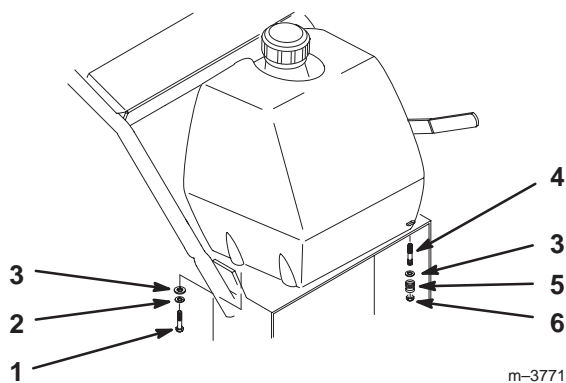

Figure 10
1. Align fuel tank to top of rear frame and secure fuel tank right side with (2) 5/16–18 x 22.5 mm (7/8 in.) bolts, (2) 5/16 lock washers and (2) 5/16 washers (Fig. 10).
3. Secure fuel tank left side to frame with (2) 5/16–18 x 22.5 mm (7/8 in.) studs, (2) 5/16 washers and (2) 5/16 locknuts (Fig. 10).